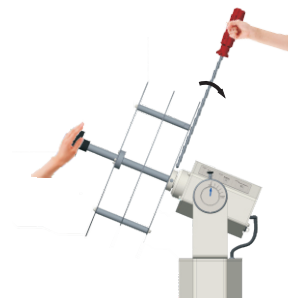

figure 6
3. Fasten the screw on the tray with the screw driver to keep the tray is fixed well, as shown in figure 6.